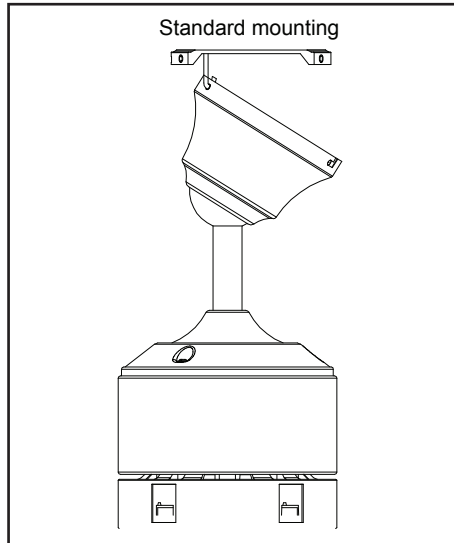

Figure 9
4. Carefully lift the fan assembly to the ceiling mounting plate and hang the fan on the hook provided by utilizing one of the holes at the outer rim of the ceiling canopy. (Figure 9)
THE HOOK AS SHOWN IN FIGURE 9 IS ONLY TO BALANCE FAN WHILE ATTACHING WIRING. FAILURE TO HANG AS SHOWN IN FIGURE 9 MAY RESULT IN HOOK BREAKING CAUSING THE FAN TO FALL. HOOK MUST PASS FROM INSIDE TO OUTSIDE OF CANOPY.